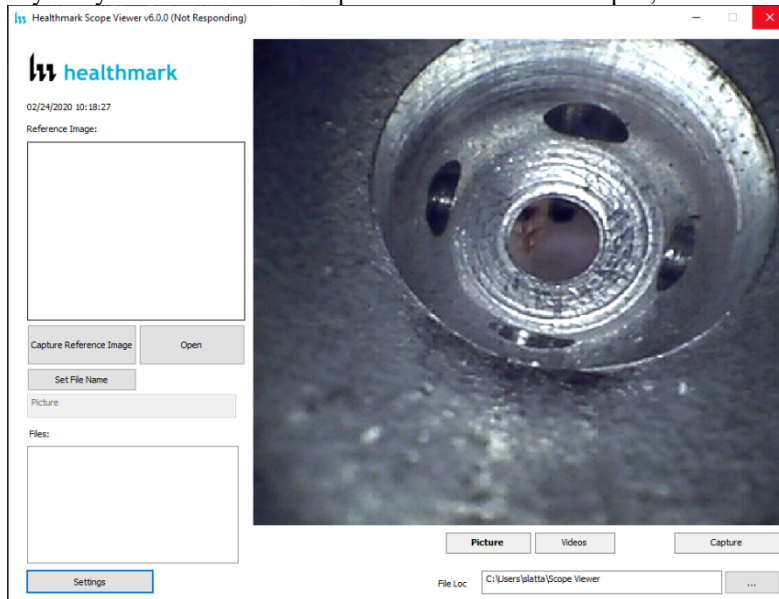

Figure 18
2. If you try to disconnect the scope while the software is open, the software screen freezes. **Fig. 18**